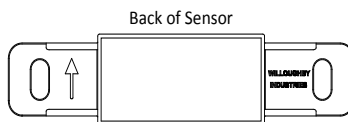

Figure 1
3. Install new sensor. Make sure sensor arrow is pointing up. *See figure 1.*